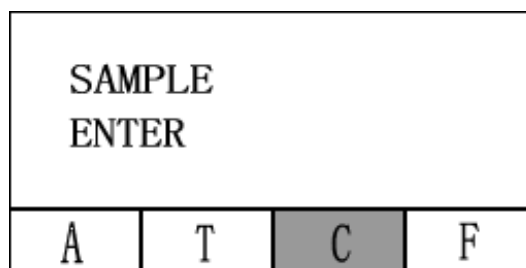

Fig. 4-7
Step 4, Put the Standard Sample in the light path following the guide, ENTER to confirm. (Fig. 4-7)